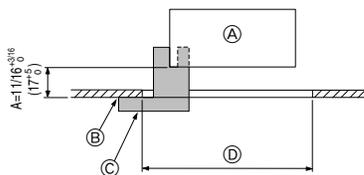

Fig. 8-2
8.2. Preparing to attach the grille (Fig. 8-2)
- With the gauge ③ supplied with this kit, adjust and check the positioning of the unit relative to the ceiling. If the unit is not properly positioned relative to the ceiling, it may allow air leaks or cause condensation to collect.
- Ⓒ Gauge ③ (inserted into the unit)